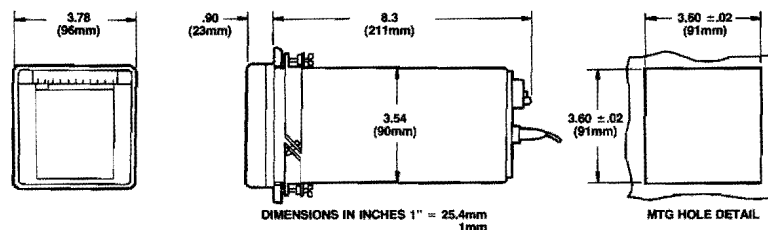

Figure 2-1. Dimensional Diagram
2.3.2 The unit may be set on a flat surface or panel mounted, depending on requirements. If it is to be panel mounted, refer to Figure 2-1 for panel cut-out dimensions and other details.